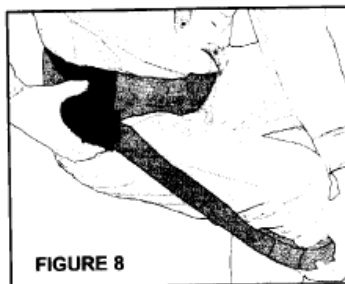

FIGURE 8
3. Draw the strap from this point of attachment around the *outside* of the leg (see Figure 8) and along the inside of the thigh until you can insert the prong into the